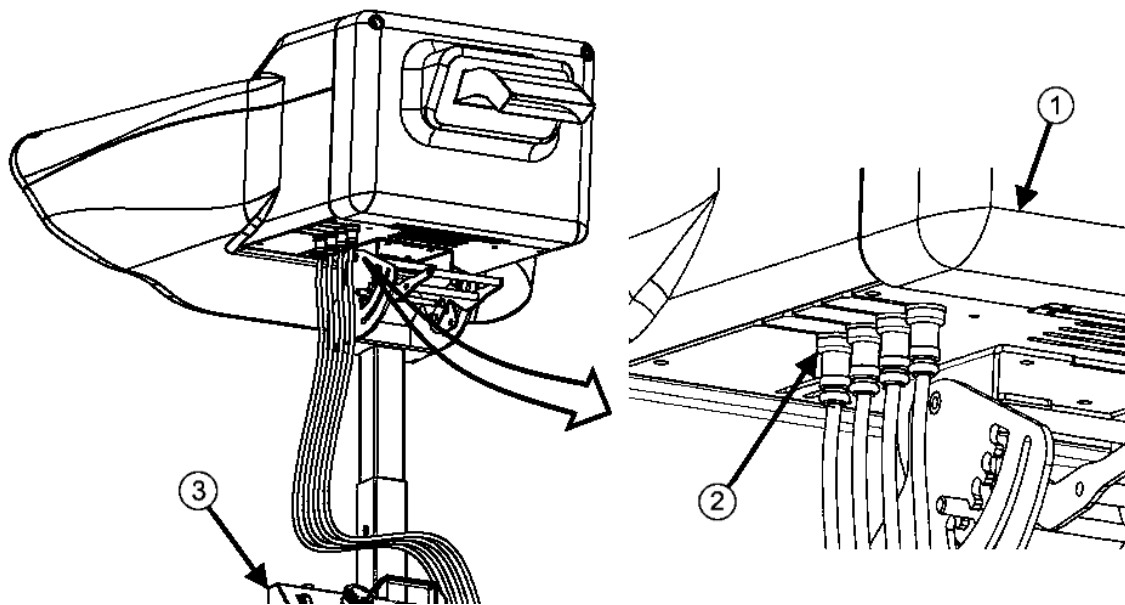

Figure 16 Control Box Cable
1. Hold the **Dispenser** head with one hand (refer to Figure 16).